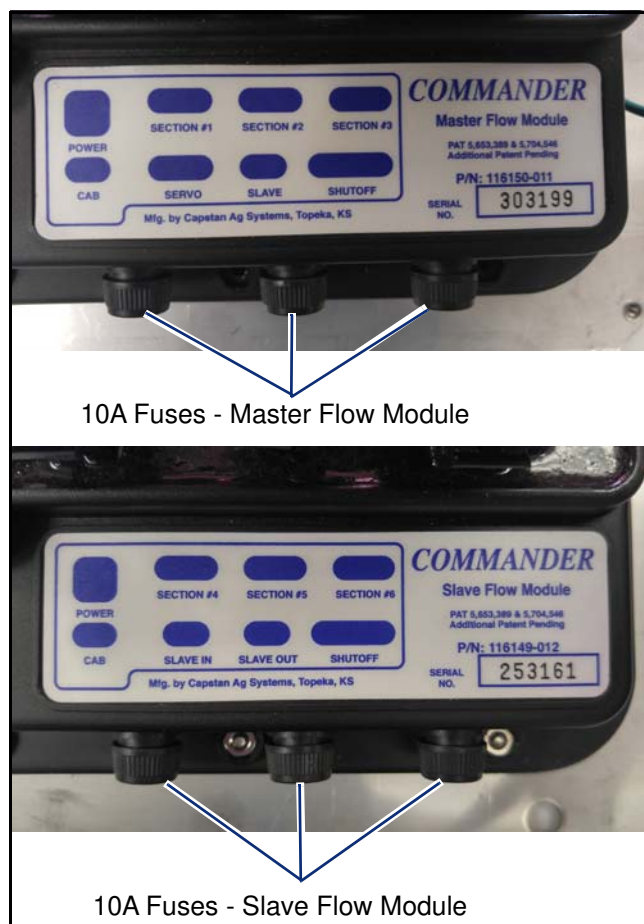

Figure 21
**[Figure 21]** - The master and slave flow module each contain three 10 amp fuses.